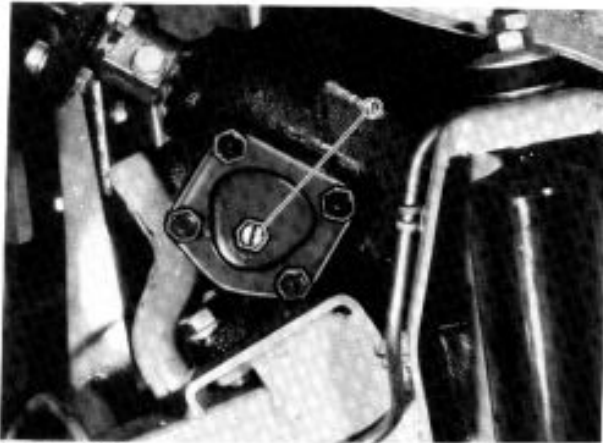

Fig. 18-11
- 2) The adjusting bolt on the steering gear box is for giving a preload to the worm shaft. If this shaft is noted to have any rattle, check its starting torque by using a spring balance, and tighten adjusting bolt ①, Fig. 18-11, to obtain the specified torque.